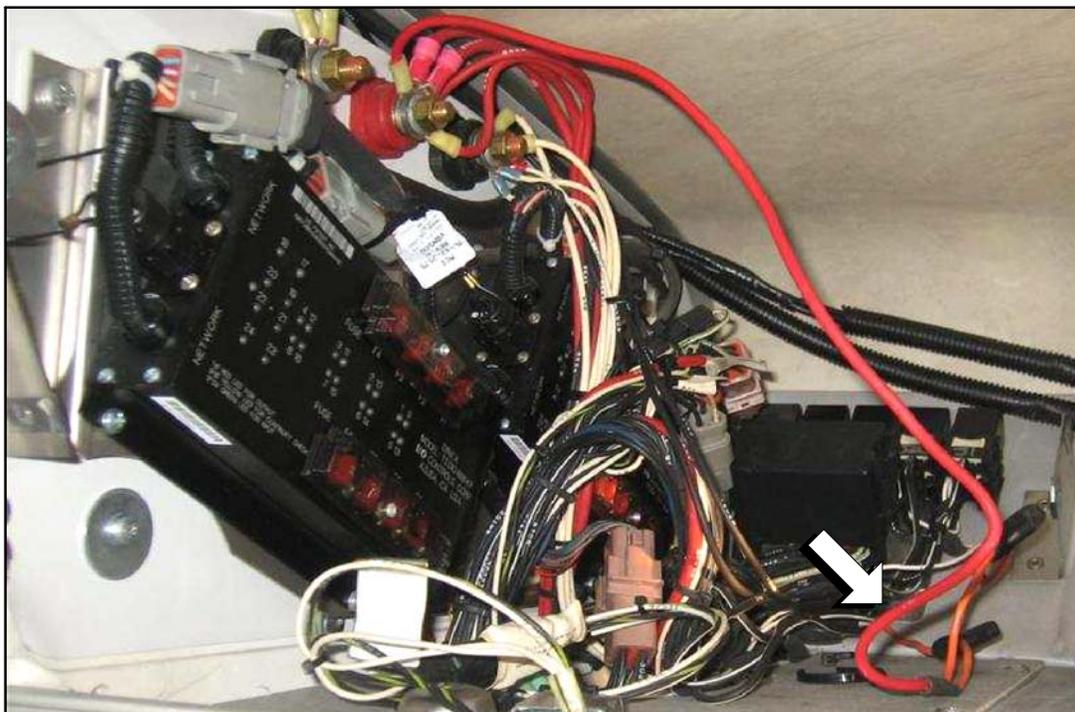

Figure 2.
- 6. Locate the red and orange wires installed in the procedure steps of FCP388 (refer to Figure 2).